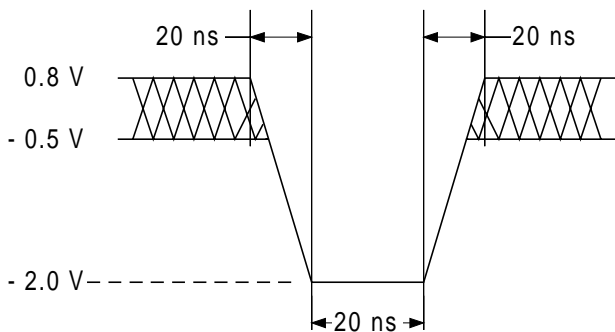
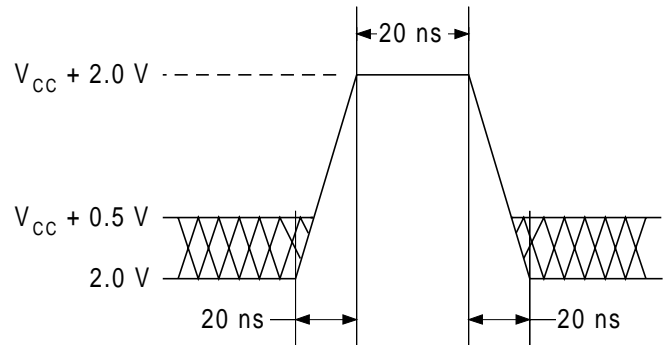

Figure 9. Maximum Undershoot Waveform
Figure 10. Maximum Overshoot Waveform
1. Minimum DC voltage on input or I/O pins is -0.5 V. During voltage transitions, input or I/O pins may undershoot V_{SS} to -2.0V for periods of up to 20 ns. See Figure 9. Maximum DC voltage on input or I/O pins is V_{CC} + 0.5 V. During voltage transitions, input or I/O pins may overshoot to V_{CC} + 2.0 V for periods up to 20 ns. See Figure 10.
2. Minimum DC input voltage on pins A[9], OE#, and RESET# is -0.5 V. During voltage transitions, A[9], OE#, and RESET# may undershoot V_{SS} to -2.0 V for periods of up to 20 ns. See Figure 9. Maximum DC input voltage on these pins is +12.5 V which may overshoot to 13.5 V for periods up to 20 ns.